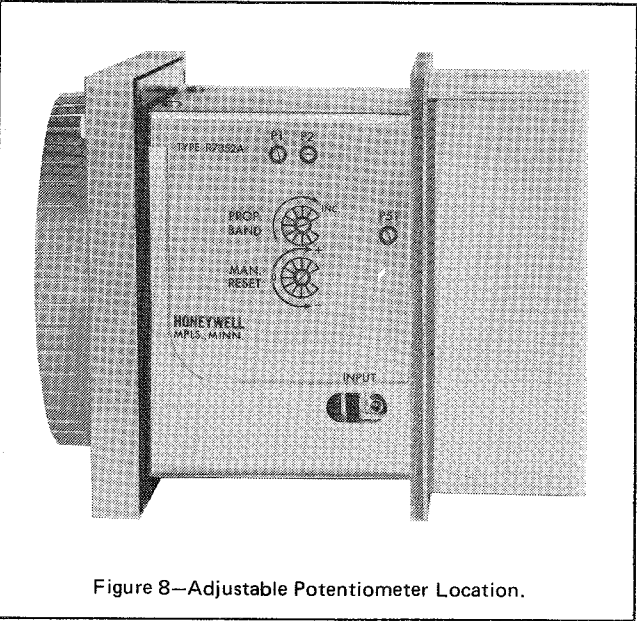

Figure 8—Adjustable Potentiometer Location.
The only other adjustments that should be necessary on an initial start up are the potentiometer adjustments on the side of the chassis (see Figure 8). In order to gain access to these adjustments, turn the case lock screw to free the chassis from the case, and slide the chassis out approximately three and one-half inches. The chassis connector plug, connecting the chassis to the rear wiring terminals, slides on two rods attached to the back of the case. By pulling the chassis out until resistance from the connector cable is felt, access to the potentiometer adjustments is possible without interrupting power to the unit.
3. Set the manual reset potentiometer to midposition (see Figure 8).